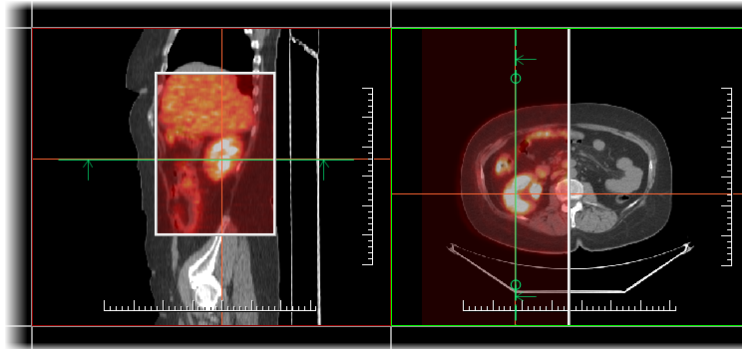

Figure 330 – Fusion images between CT and PET series
- **Vertical** - the view is divided with a vertical line; the image from the fusion series is displayed on the right (see Figure 330, right).
- **Rectangle** - the image from the overlaying series is displayed inside the rectangle (see Figure 330, left).